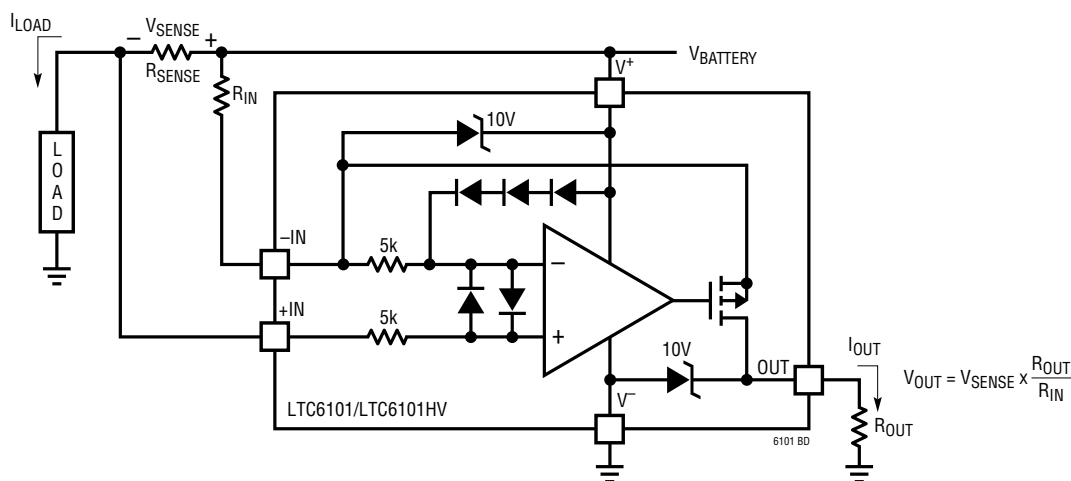

Figure 1. LTC6101/LTC6101HV Block Diagram and Typical Connection
-IN: The internal sense amplifier will drive IN⁻ to the same potential as IN⁺. A resistor (R_{IN}) tied from V⁺ to IN⁻ sets the output current $I_{OUT} = V_{SENSE}/R_{IN}$. V_{SENSE} is the voltage developed across the external R_{SENSE} (Figure 1).
The LTC6101 high side current sense amplifier (Figure 1) provides accurate monitoring of current through a user-selected sense resistor. The sense voltage is amplified by a user-selected gain and level shifted from the positive power supply to a ground-referred output. The output signal is analog and may be used as is or processed with an output filter.